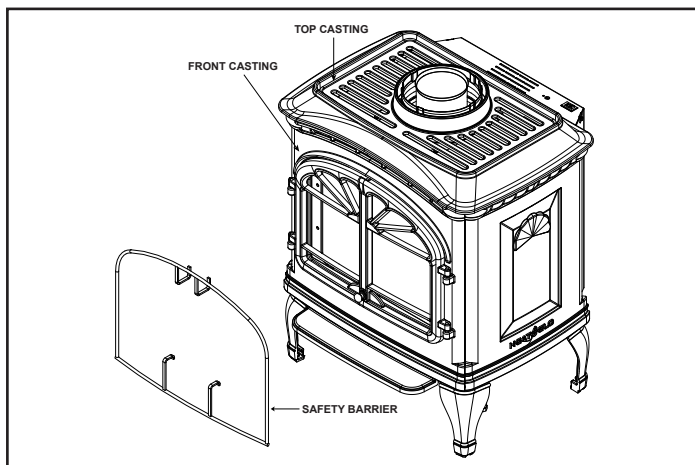

Figure 10.1 Remove Casting
2. Remove front casting by grasping it at the top and lifting up. If the stove is already installed in a top vented configuration, the top casting will need to be lifted slightly to accommodate removal of the front casting. See Figure 10.1. Set front casting aside on prepared work surface.
Reinstall the glass frame by engaging the latches at the bottom corners of the firebox with the glass frame tabs. See Figure 10.1 and 10.2 for reference. Reinstall front casting and safety barrier.